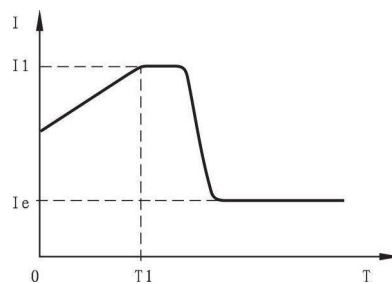

Figure 12-4-1
a) The motor will be under current starting mode when code F9 is set to 4(current ramp). Figure 12-4-1 shows the output current wave of the current ramp starting mode, I_1 is the time value set by code F1.